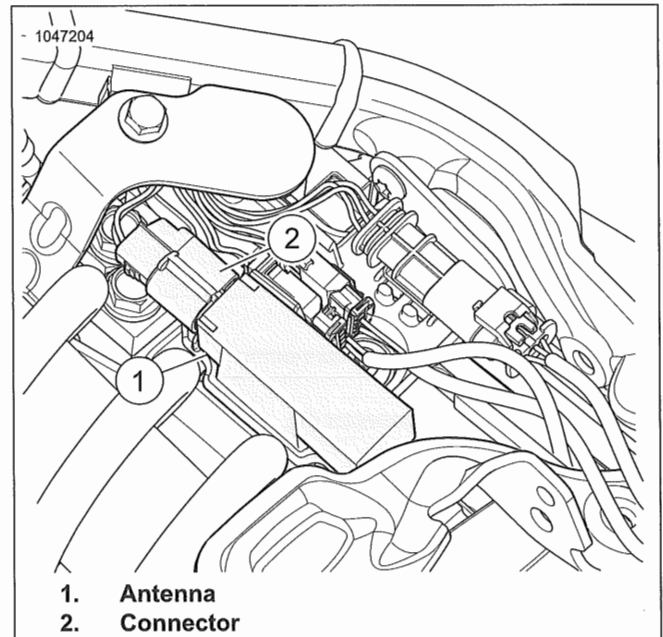

Figure 7-120. Security Antenna
1. See Figure 7-120. Remove antenna (1).
- b. Disconnect connector (2).
1. See Figure 7-120. Install antenna (1).
- a. Connect connector (2).